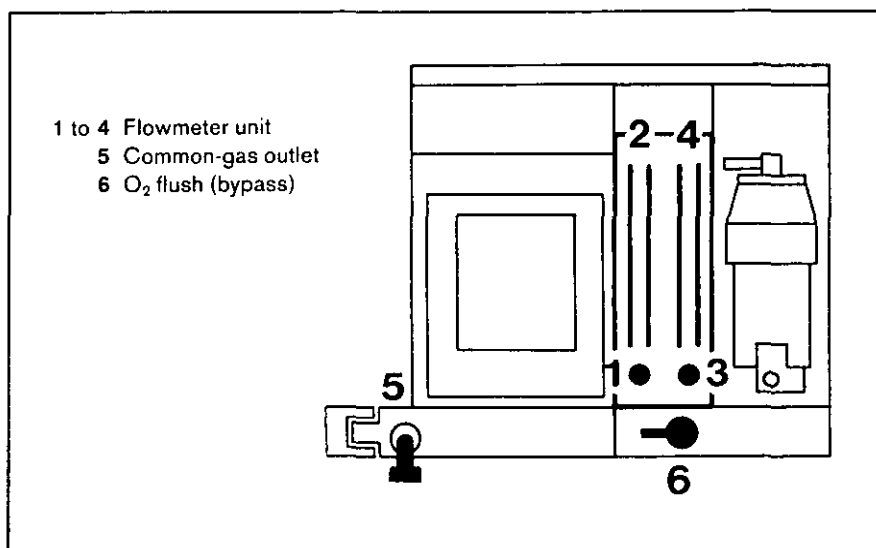

Fig. 14 Sulla 808 V
5.1.1 O₂ supply (Fig. 14)
5.1.2 N₂O supply (Fig. 14)
5.2 Checking type of gas (Fig. 14)